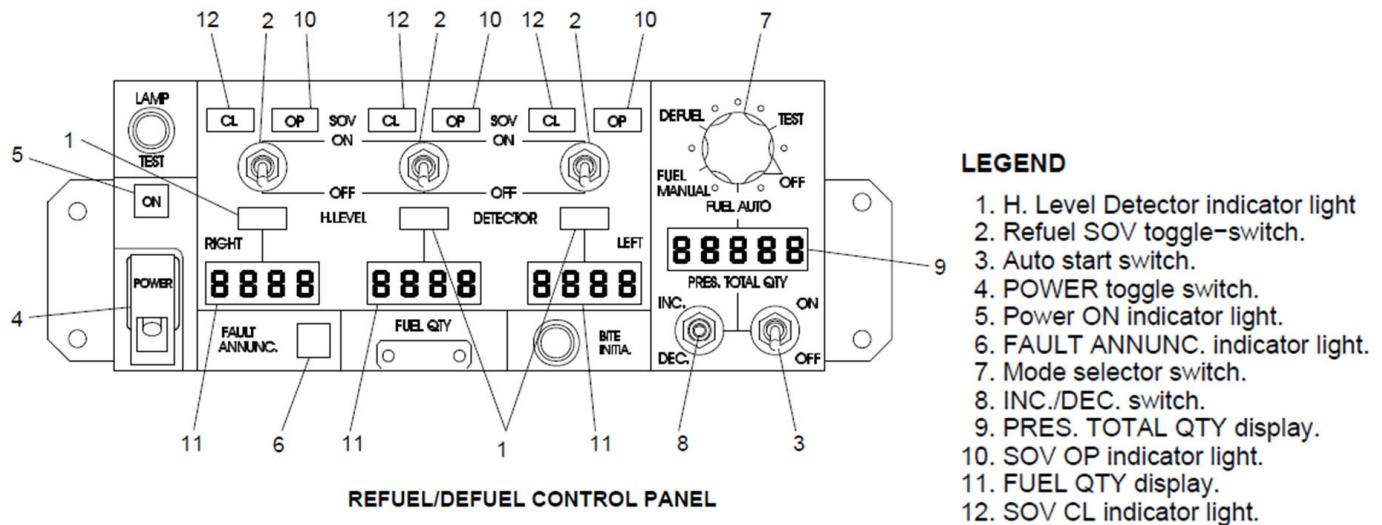

Figure 3-3: CRJ Fuel Control Panel
- A. After the aircraft is bonded, ensure that power is being supplied to the aircraft. Refer to Figure 3-3: "CRJ Fuel Control Panel" for the visual diagram of the fuel panel.
- O. Wait 10 seconds after fuel flow stops to move the auto start switch (3) to OFF.
- P. Set the mode selector switch (7) to OFF.
- Q. Set the POWER toggle switch (4) to OFF and closed the guard over the switch. Make sure that the Power ON indicator light (5) goes off.
- 1. Set all three refuel SOV toggle-switches (2) to OFF.
- 2. Set the auto start switch (3) to OFF.
- N. Once fueling is complete and all SOV toggle switches (2) are OFF.
- O. Set the mode selector switch (7) to OFF.
- P. Set the POWER toggle switch (4) to OFF and closed the guard over the switch. Make sure that the Power ON indicator light (5) goes off.
- C. Lift the guard off the POWER toggle switch (4) and set to ON. Ensure the Power ON indicator light (5) illuminates. Skip this step if the fuel control panel is inoperative.
- G. If applicable, select the POWER toggle switch (1) to OFF and cover the switch with the guard. Ensure the Power ON indicator light (2) goes off.
- A. After the aircraft is bonded, ensure that power is being supplied to the aircraft. Refer to Figure 3-3: "CRJ Fuel Control Panel" for the visual diagram of the fuel panel. Adhere to all defueling policies and safety guidelines listed within Chapter 2: "Safety and General Procedures".